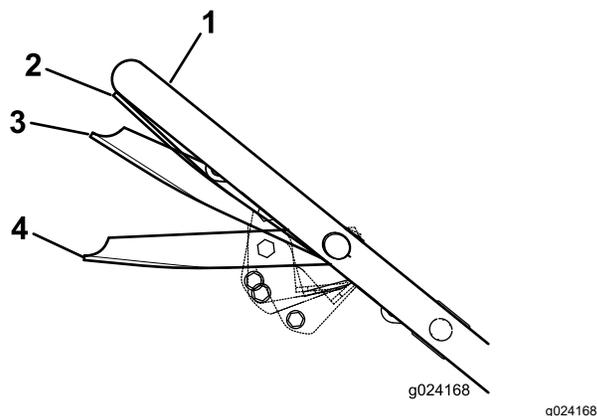

Figure 15
3. Squeeze the blade-control bar against the handle to the Run/Drive position (Figure 15).
Important: Shifting speeds while squeezing the blade-control bar against the handle in the Run/Drive position could damage the transmission. Move the blade-control bar to the Run/Shift position (Figure 15) whenever you change the ground speed.